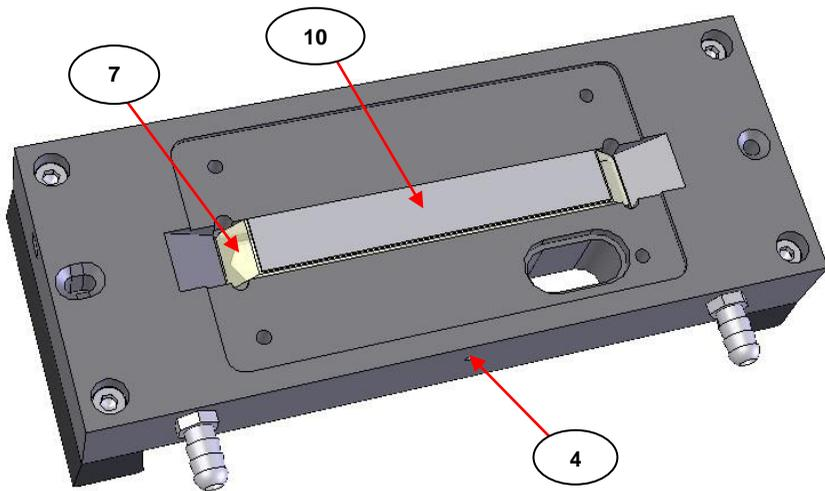

Fig 7. Lead Pad on Underside of ATR Crystal with Removal of Lower Thermocirculating Plate Assembly
2) Between the underside of the lower thermocirculating plate (8) and the ATR crystal (7) there is a protective lead pad (10). Carefully remove the lower thermocirculating plate (8) away to gain access to the lead pad (10). (See Fig 7.) The lead pad (10) may be stuck close to the underside of the crystal (7) and so it needs to be removed very carefully away from the crystal.
- 3) Place the lead pad (10) carefully and centrally on the underside face of the crystal (7), making sure that it does not obscure the input or output angled faces of the crystal. (See as **Fig 7.**)